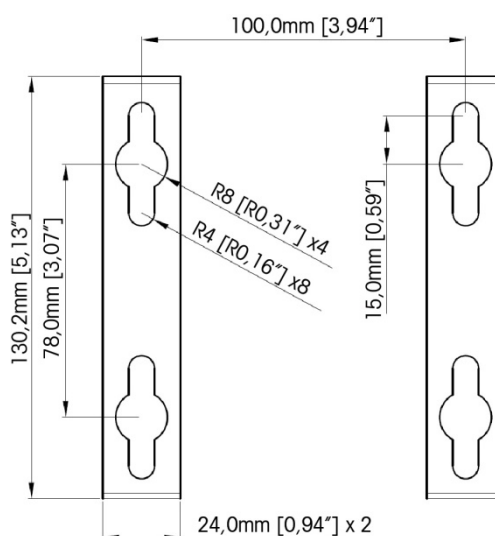

Figure A-23: VESA 100 x 100mm Wall Bracket Mounting Hole Pattern
3. Mark the position of the mounting holes on the vertical surface per the dimensions shown in Figure A-23, or by holding the terminal up to the surface and marking through the bracket holes.